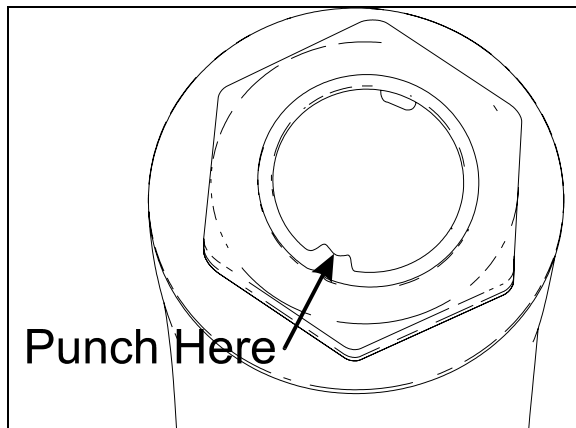

FIGURE 6: FIXING NUT PUNCH MARK
3. Lock nut with sector shaft using a punch mark into the groove (Refer to figure 6).